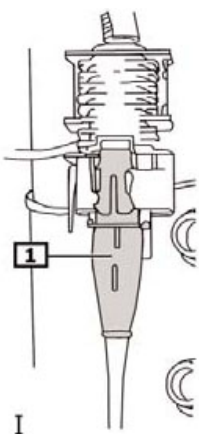

Fig. 2:
3. **Fig. 2** Vehicle without brake lining wear indicator: Disconnect plug (1).